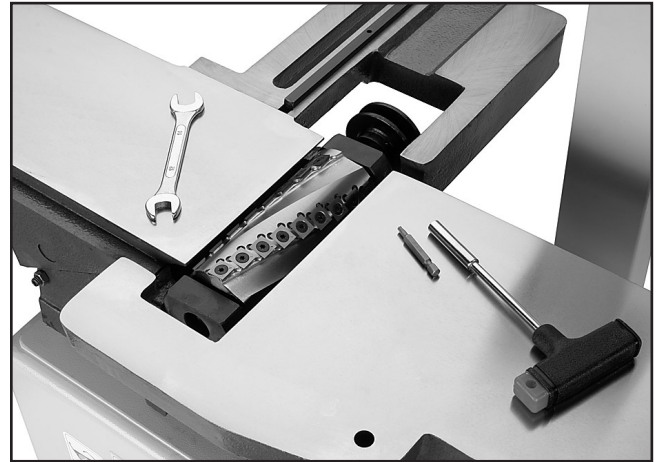

Figure 5. Spiral cutterhead installed.
- Install the included bearing block studs into the spiral cutterhead bearing blocks, and install the cutterhead (**Figure 5**).